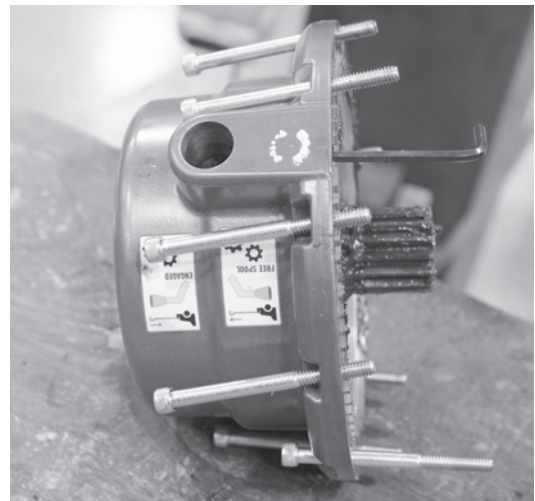

Figure 8
11. Place the planetary housing in the orientation shown (fig. 8). **Note: This will keep the detent ball and spring from falling out.**